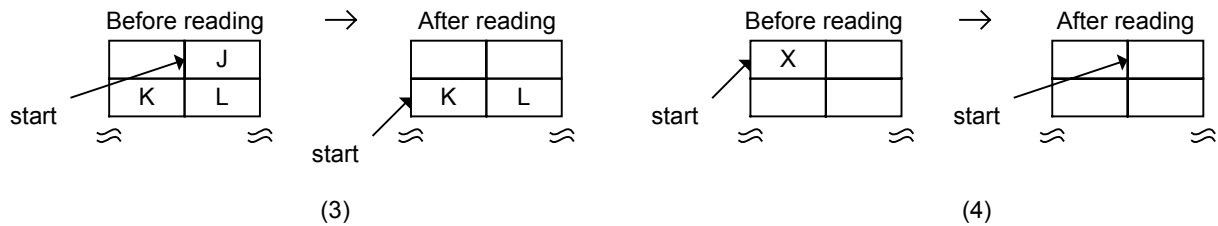

Figure 1-86 FIFO reading processing (operation requiring caution)
Figure 1-86 (3) illustrates a case of word reading using the FIFO_Rd_0,1 register from a state in which byte boundaries exist. Indeterminate data is output to High and data J is output to Low. The read pointer increments one byte at a time. Figure 1-86 (4) shows the operation performed when word reading using the FIFO_Rd_0,1 register from a state in which byte boundaries do not exist and one data byte remains. Data X is output to High and indeterminate data is output to Low. The read pointer increments one byte at a time.